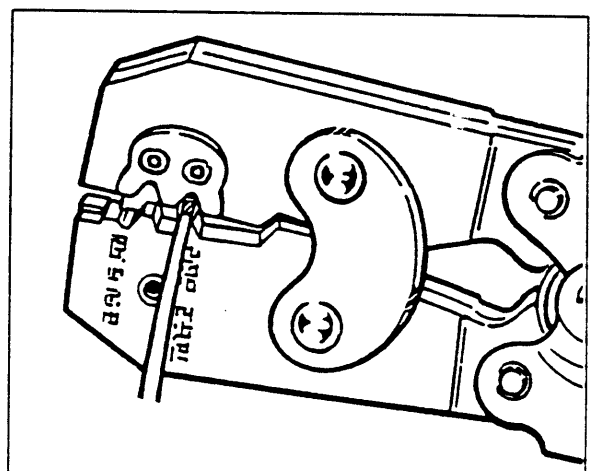

FIGURE 2
3. Partially close tool (one of two clicks) to hold contact. Insert wire into contact until it touches stop (See Figure 2). While holding wire in place close tool completely until ratchet releases. Open handles and remove contact.